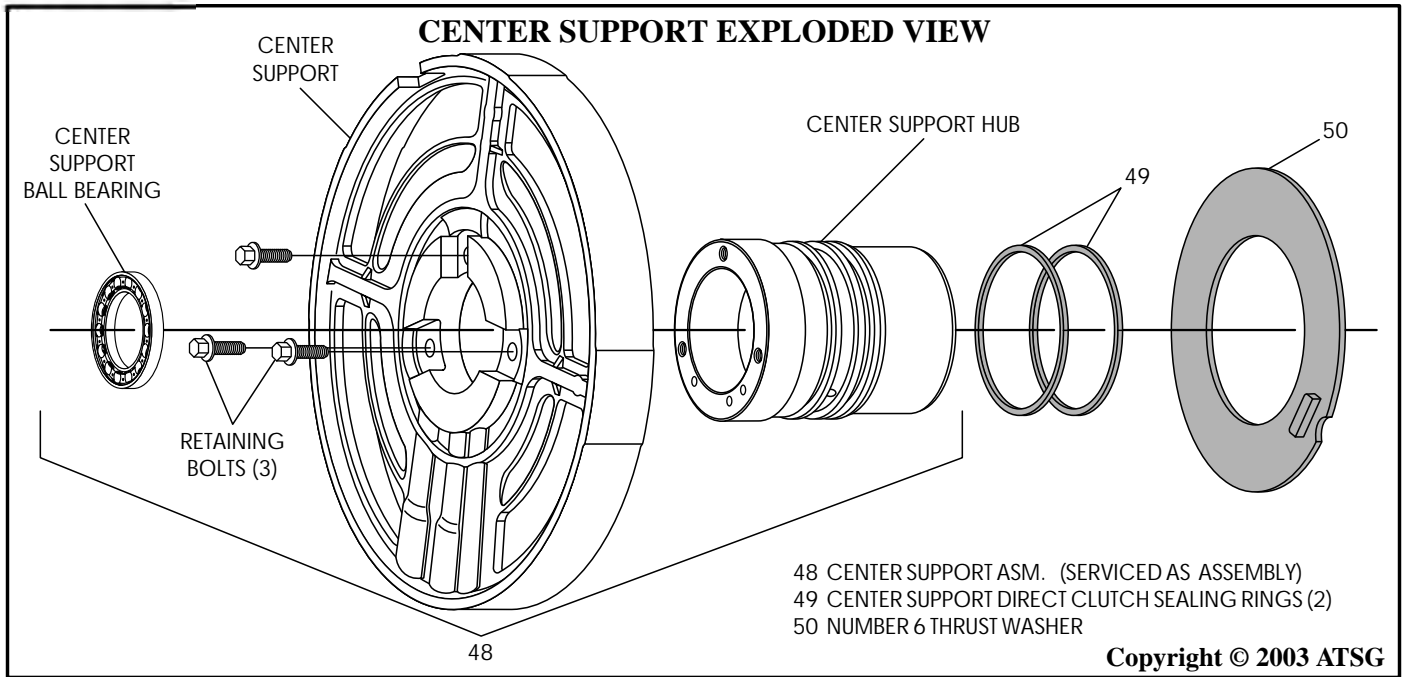

Figure 132
1. Disassemble center support, if necessary, using Figure 132 as a guide.
4. Remove and discard the two center support direct clutch sealing rings (See Figure 132).